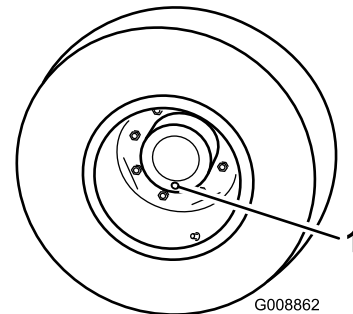

Figure 66
1. Position the machine on a level surface and position a wheel so that 1 of the check plugs is at the lowest (6 o'clock) position (Figure 66).